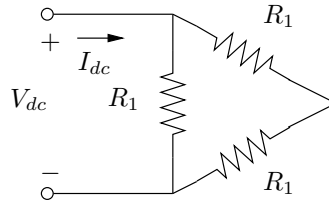

Figure 1
a. The equivalent circuit of the dc test is shown in Figure 1. This leads to: